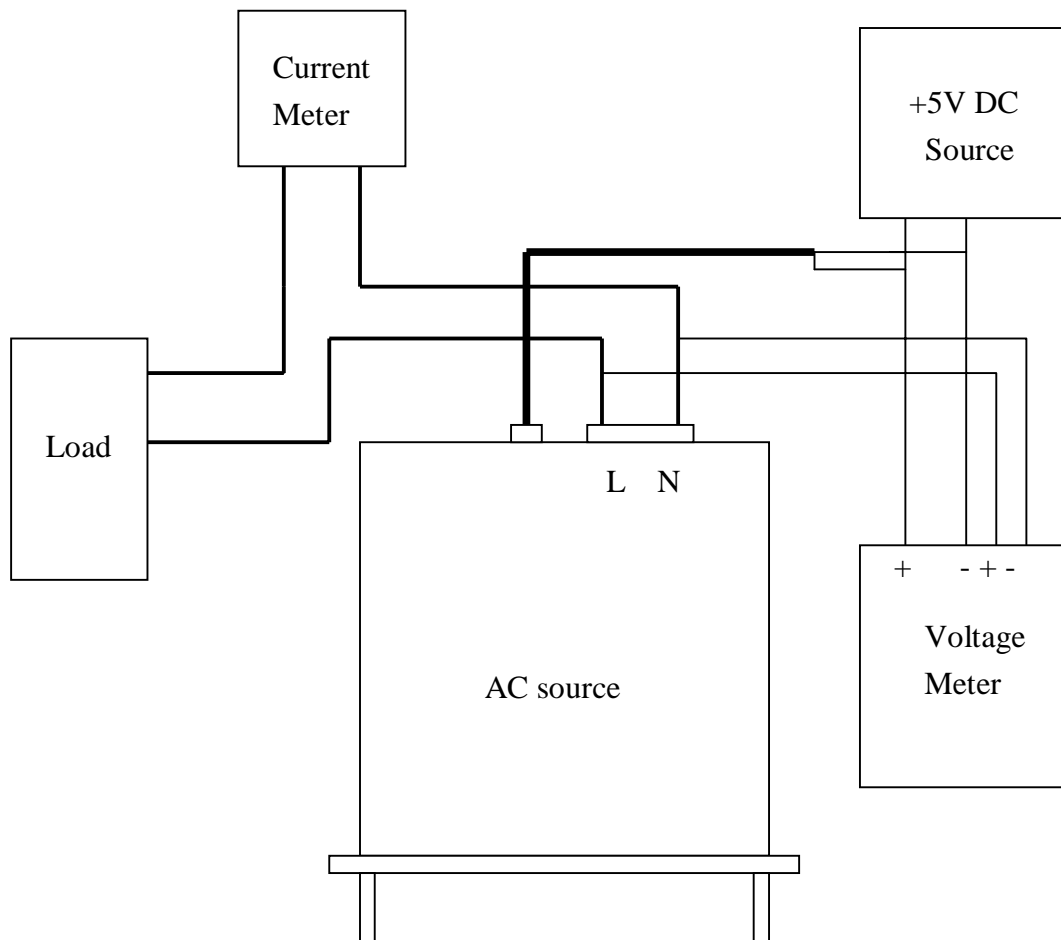

Figure 4.1.1
The ac source built a simple way to calibrate the output and measurement accuracy without opening cover. Users can do it just follow the procedures step by step. A voltage meter, current meter, suitable load and +5V dc source are needed for while calibration procedure. Connections for these instruments please refer to Figure 4.1.1. There are three items need to calibrate. But it is not necessary to calibrate all at once. User can just choose one item if needs.
1. The Vdc offset may be positive or negative. The positive of DVM connect to the line of AC source output, and the negative of DVM connect to the Neutral of AC source output. See Fig. 4.1.1.